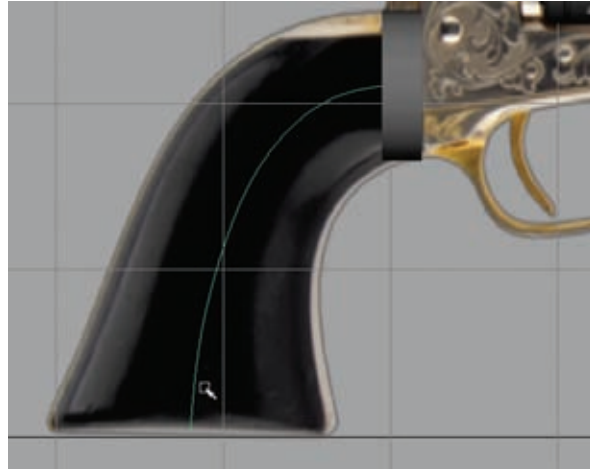

Figure 3.15
2. Draw out a curve from the cylinder through the center of the reference grip to the base, as in Figure 3.15.